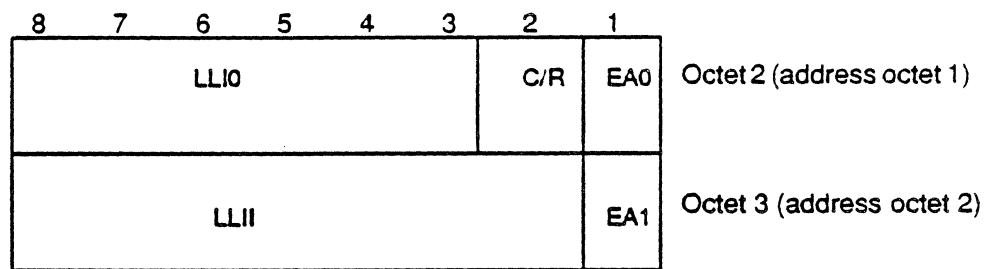

Figure 16.4: Address Field Detail
**Address Field** The format of the address field is shown in Figure 16.4. The fields are as follows: